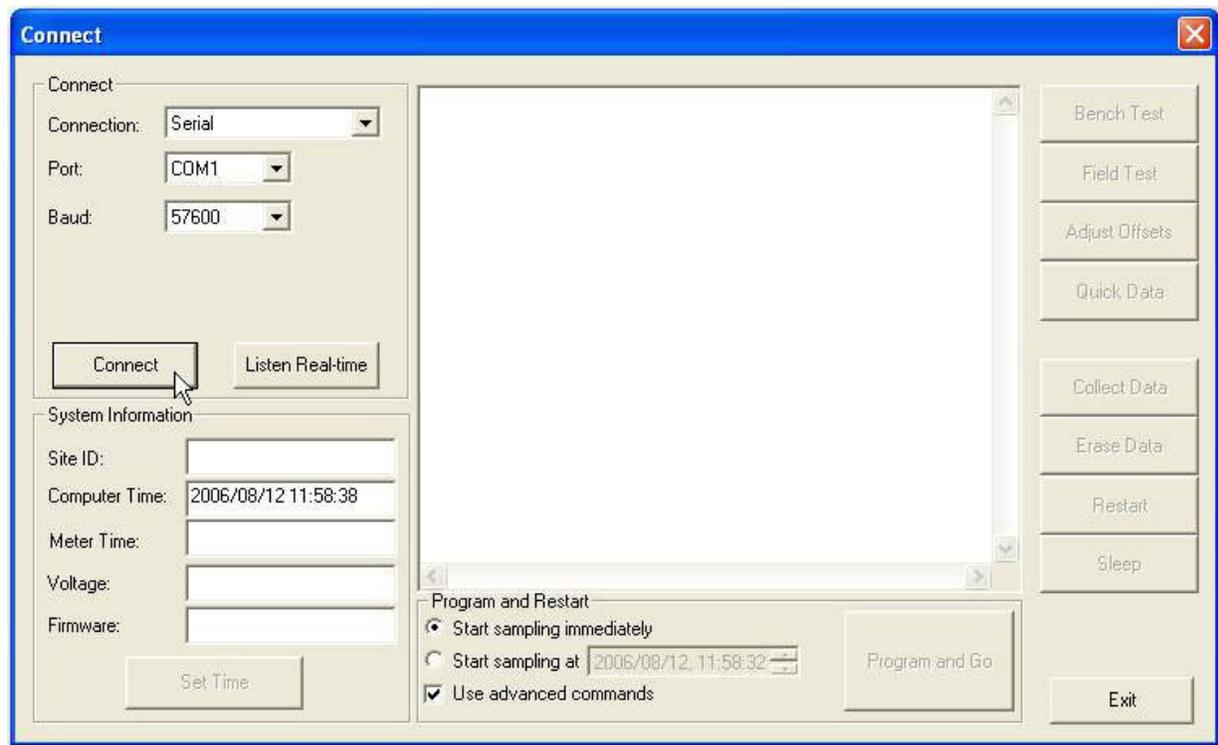

Figure 2-69 Connect Screen
6. Click Connect (Figure 2-69).